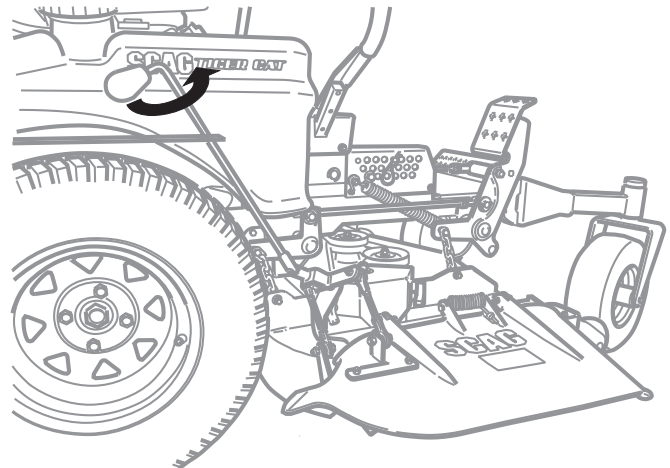

Figure 2-1. Moving from Open to Closed Position
1. Rotate the OCDC control handle inward to lock the OCDC into the closed position. See Figure 2-1. The discharge chute will raise to allow for close trimming.